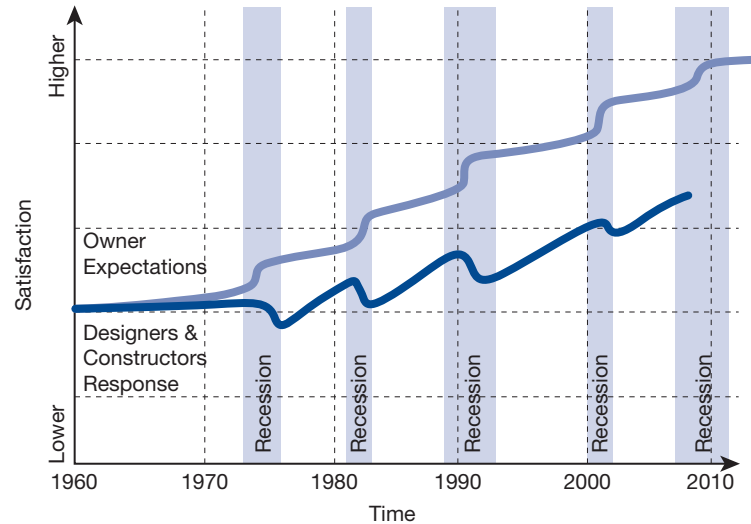

Figure 3.18 Owners' expectations; designers' and constructors' response. Sam Spata, Architect, AIA, LEED® AP BD+C
**KF:** For a long time I've said technology is not about technology. It's about getting business results. I always try to start with what problem are you trying to solve or what kind of competitive advantage or benefit are you trying to gain? You always have to work with other people in this industry. If you come up with a technology strategy that does something for you but creates a big problem or additional work or liability for someone else, it's not going to be very acceptable. We help people to develop a viable, implementable, win-win strategy on these things. It's something we're pretty facile at. If you can do that pretty predictably and consistently, we've found that this is rare among consultants. That's why we mostly hire people with a background in design and construction—to think like our clients, see the big picture, and not get so caught up in the immersive experience of technology. (See Figure 3.18.)